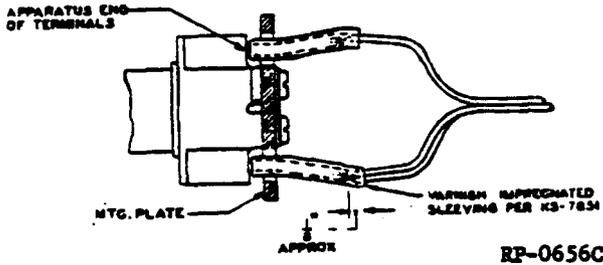

FIG. 3 SLEEVED TERMINALS - APPARATUS WITH SEWED FORMS (PAR. 3.541)
3.541 At Apparatus With Sewed Forms: Cut the sleeving to the length required to cover the terminal and extend approximately 1/8" beyond the end of the terminal as illustrated in Figure 3.